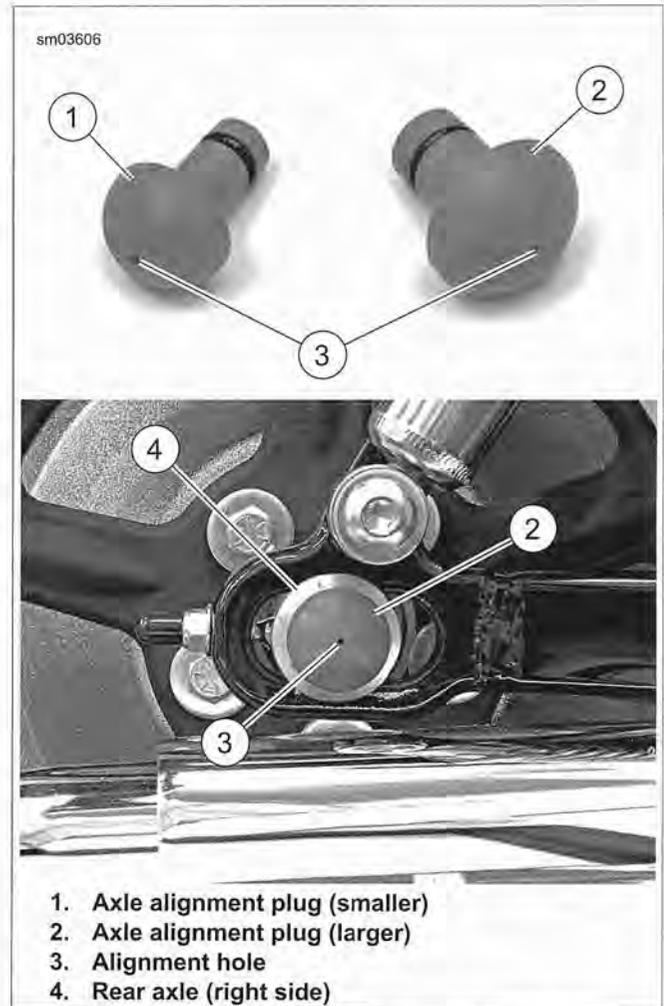

Figure 1-54. Axle Alignment Plugs
1. See Figure 1-54. Insert alignment plugs (1, 2) from the AXLE ALIGNMENT PLUG SET (Part No. HD-48856) into left and right ends of rear axle.